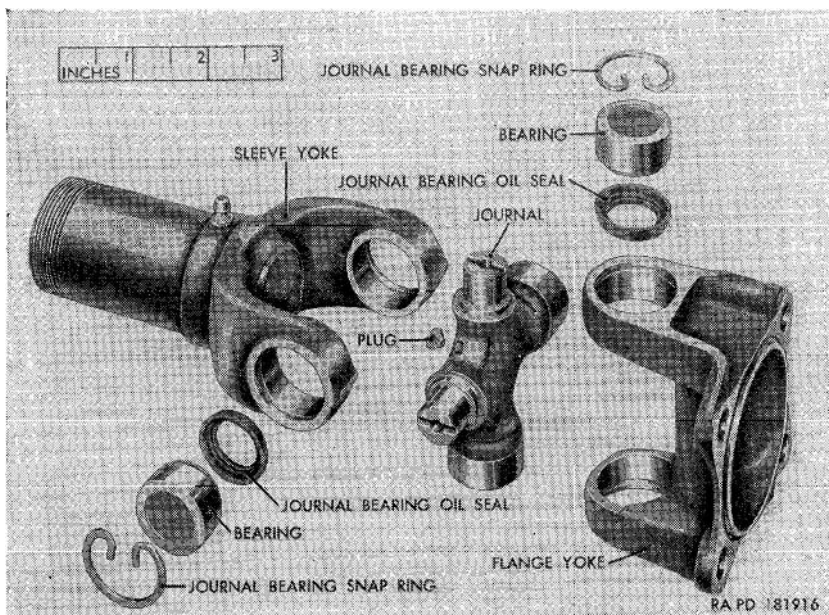

Figure 132. Rear propeller shaft front universal joint and rear propeller shaft-to-transfer flange yoke—partially exploded view.
*c. Rear Propeller Shaft Universal Joints Disassembly.* Remove the rear propeller shaft with universal joints (par. 203a). Procedure for disassembly of the rear universal joint of the rear propeller shaft is the same as the procedure for disassembly of the universal joints of the front propeller shaft (a(2) and (3) above). For disassembly of the front universal joint of the rear propeller shaft, refer to figure 132.
- (1) Follow the procedure of a(3) above to remove journal and bearings from the sleeve yoke.
- (2) Follow the procedure of a(3) above to remove journal and bearings from the rear propeller shaft-to-transfer flange yoke.
*d. Rear Propeller Shaft Universal Joints Assembly.* Procedure for assembly of the rear universal joint of the rear propeller shaft is the same as the procedure for assembly of the universal joints of the front propeller shaft (*b* above). For assembly of the front universal joint of the rear propeller shaft, refer to figure 132.
- (1) Follow the procedure of *b* (1) and (2) above to install the journal and bearings in the sleeve yoke.
- (2) Follow the procedure of *b* (1) and (2) above to install the journal and bearings in the rear propeller shaft-to-transfer flange yoke.
- (3) Install the rear propeller shaft with universal joints (par. 203b).